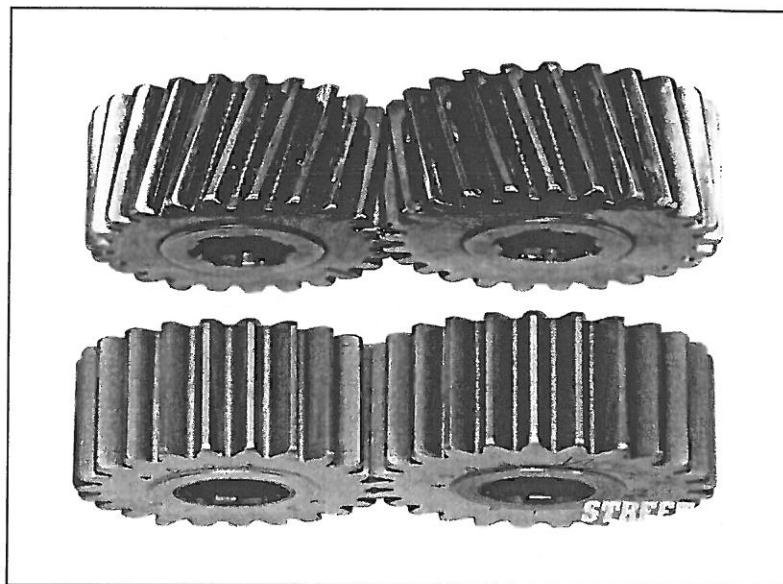

Figure 2
- 2.1 Figure 2 shows two different sets of spur gears. Study the figure and briefly explain the difference between the two sets of gears. Decide which of the two sets is the best type of gears to use in a transmission system and motivate your answer. (6)